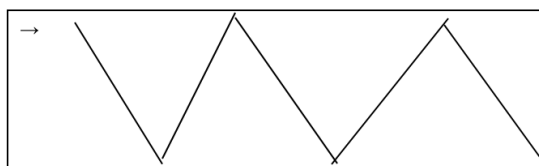

Figure 4: W-patterns (zig-zag) for collecting soil samples
- When sampling the selected area, walk in a zig-zag (W) motion across the area (see figure 4 below), making sure that you take at least 6 subsamples in each leg.